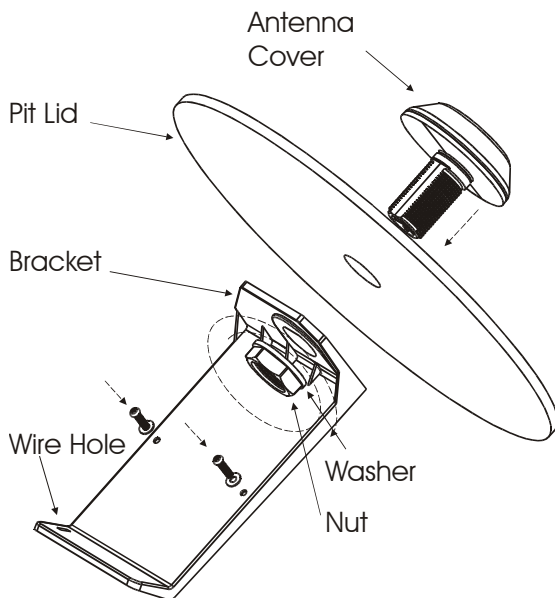

Figure 8
10. Thread the transmitter input wires through the small wire hole at the base of the bracket (see Figure 8) OR attach transmitter wires to side of bracket, threading a strip (not supplied) through the small wire hole at the base of the bracket.